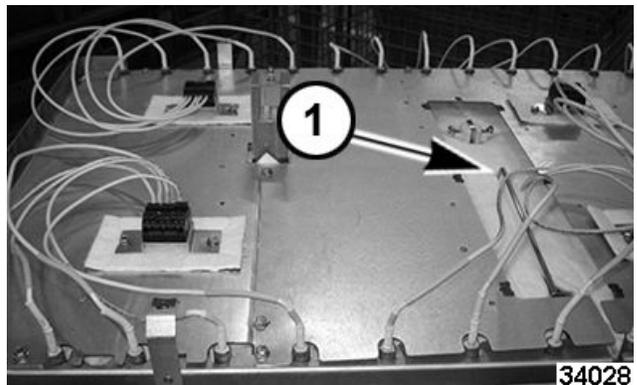

Fig. 30
4. Carefully move insulation (1, Fig. 30) to access probe mounting bolt.